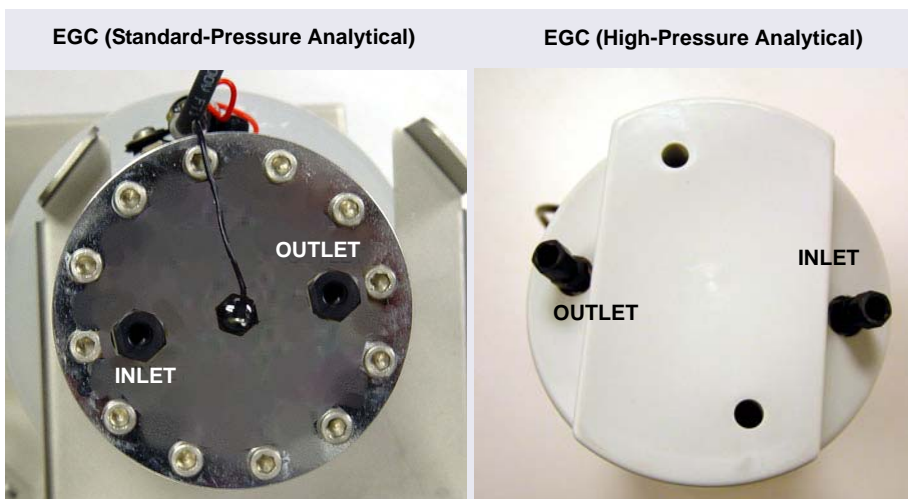

Figure 4-25. Dionex EGC Inlet and Outlet Fittings with Plugs
5. Remove the plugs from the INLET and OUTLET fittings (see Figure 4-25).